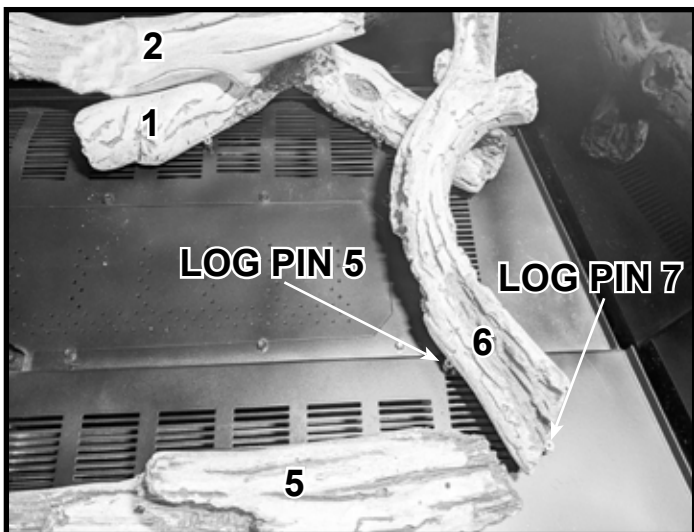

Figure 11 Place Log #6
**Log #6:** Place the bottom end of Log #6 using Log Pin #5 and Log Pin #7 as a guide. Set the top end of Log #6 on Log #1 as shown in Figure 11.